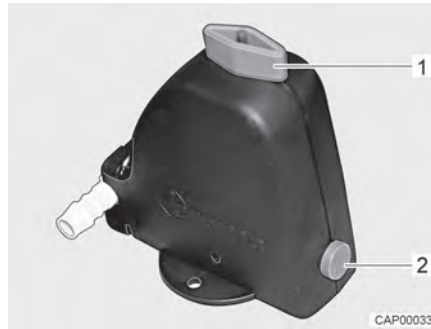
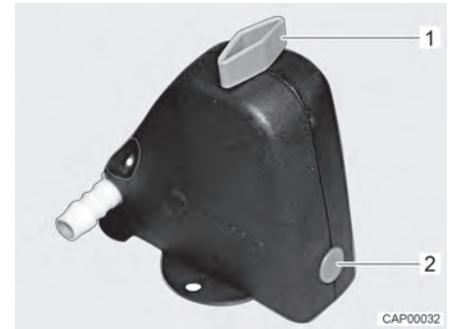

Fig. 127 Safety/drainage valve open
Fig. 128 Safety/drainage valve closed
- Close the safety/drainage valve. Turn the knob (Fig. 127,1) perpendicular to the safety/drainage valve and push the push button (Fig. 127,2) in. The closed safety/drainage valve is shown in Fig. 128. If the temperature is below 6 °C, the safety/drainage valve cannot be closed.